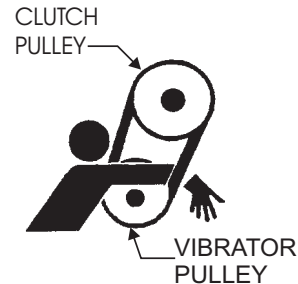

Figure 33. V-Belt Hazard
**NEVER** attempt to check the V-belt with the engine running. Severe injury can occur if your hand gets caught between the V-belt and the clutch (Figure 33). Always use safety gloves.